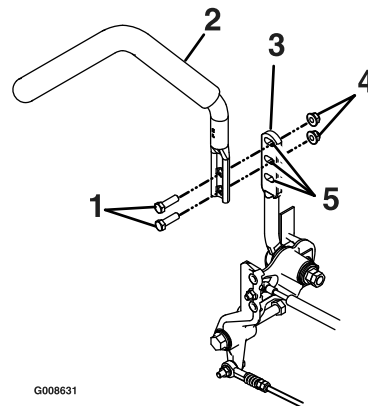

Figure 42
1. Remove the two bolts holding the control lever to the control arm shaft (Figure 42).
2. Loosen the lower bolt just enough to pivot the control lever fore or aft Figure 42. Tighten both bolts to secure the control in the new position.